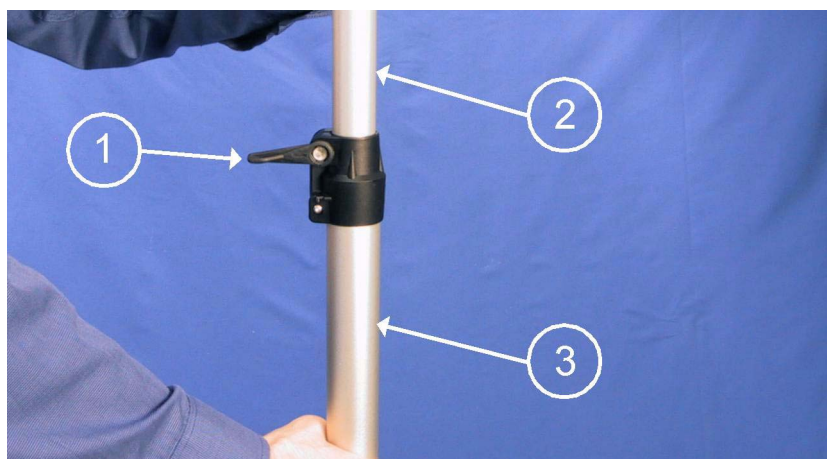

Figure 93 Extending the Optional Telescopic Mast
8. When using the optional telescopic mast, extend the mast. Open the latch (number 1 in Figure 93 on page 102) by lifting it up. Lift the inner mast (2) to the upper position while firmly holding the lower part (3) of the mast. Close the latch by pushing it down.